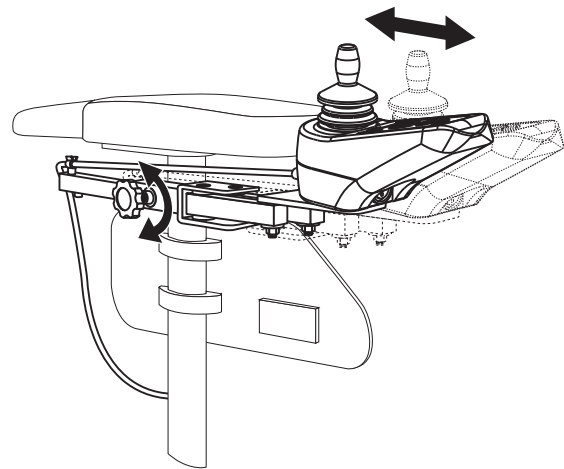

Figure 14. Controller Position
4. Loosen the adjustment knob on the armrest where the controller is currently located. **See figure 14.**